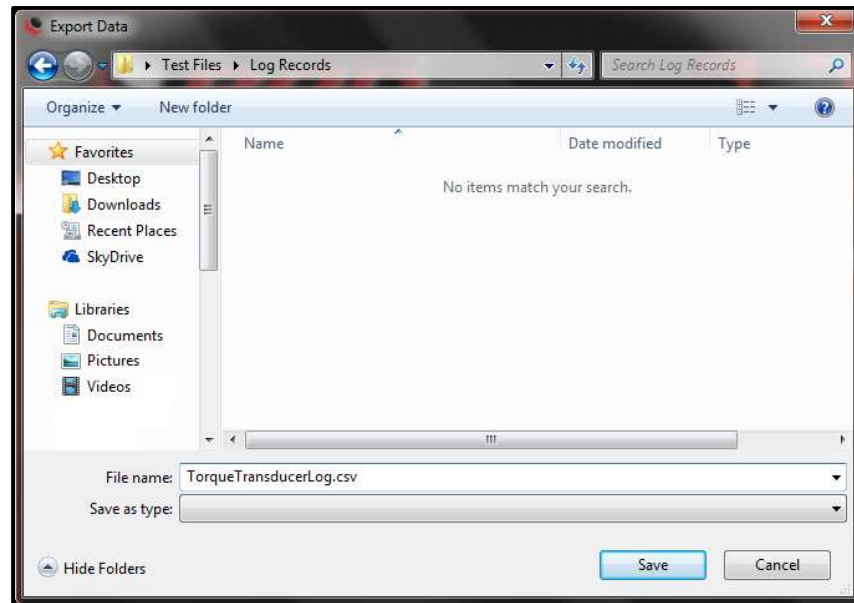

Figure 5.5-3: Saving the Data Log
- When confirmed **"Yes"** or **"No,"** a file browser will open where you can save the file (Figure 5.5-3).